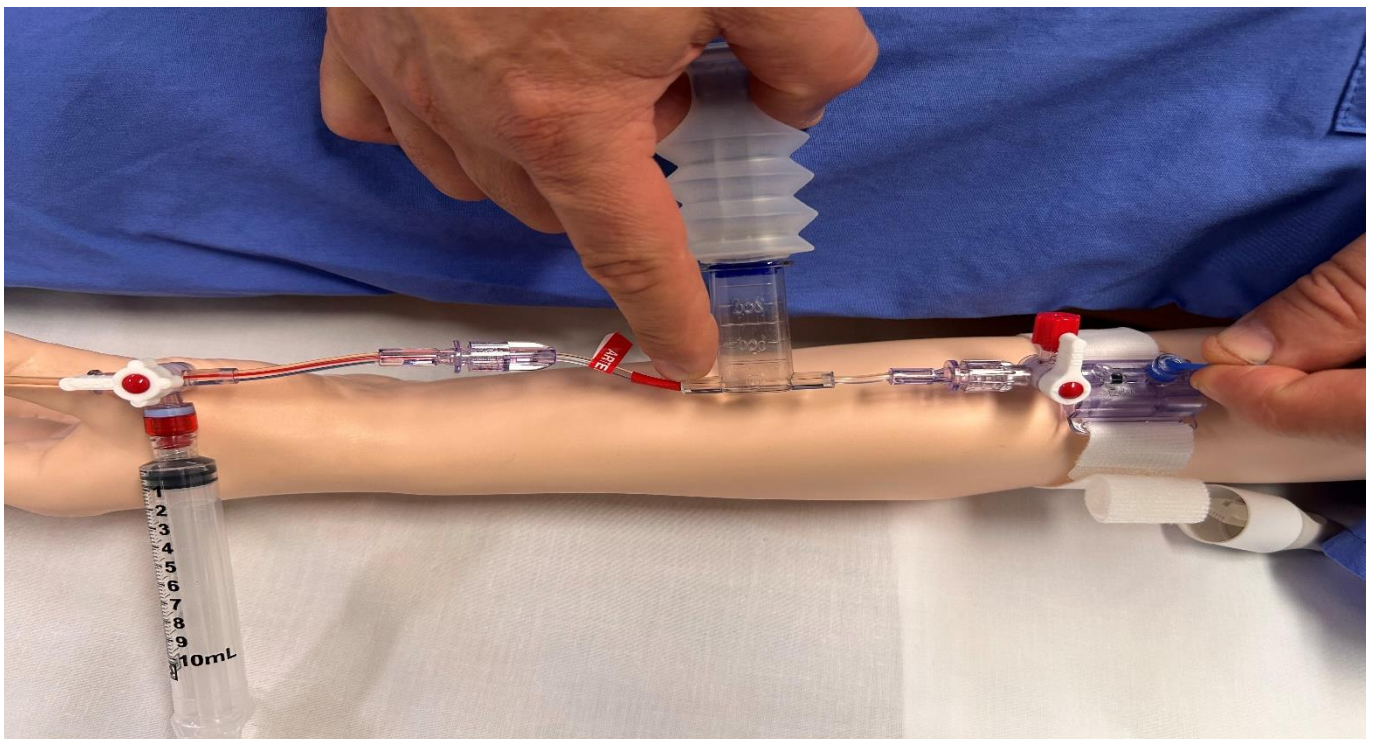

Figure 15.
- Collect saline in the reservoir by pulling the 'snap-tab' and pulling the reservoir plunger at the same time. (See Figure 15 below).